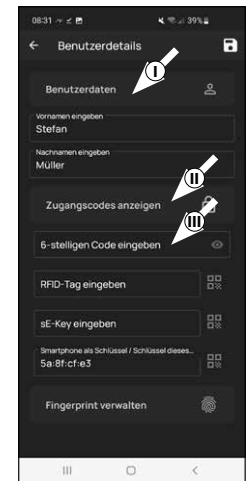

Fig. 3
- ! **Note:** This section allows you to enter the desired opening media (e.g. user code or fingerprint) for the user (II) (Fig. 3). The lock opening by smartphone is automatically stored in the first user's profile.
- 4 Enter a required 6 digit user code under "Enter 6-digit code" (III) (Fig. 3).